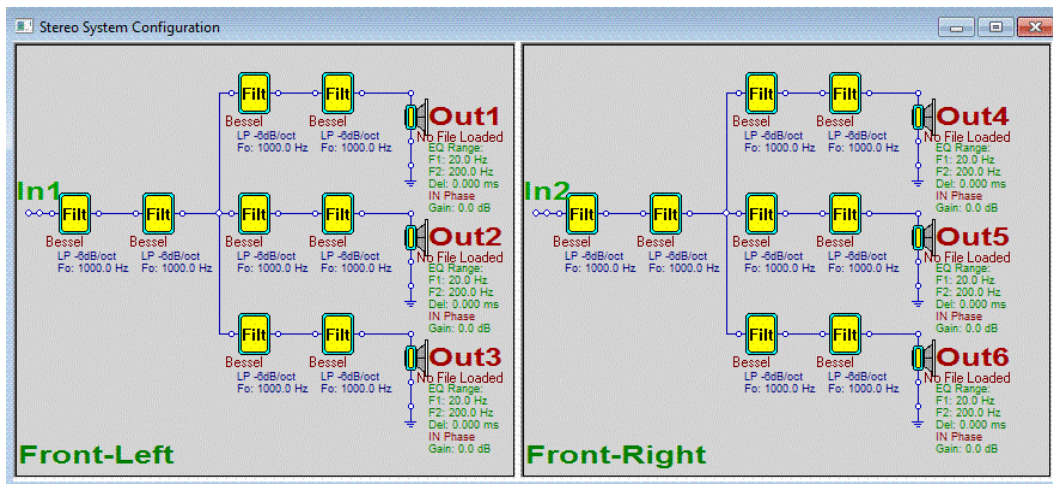

Figure 59. Stereo 2 x 3 way configuration.
- Stereo 2 x 3 Way:** This option loads a default 2 channel stereo 3-way system as shown in Figure 59.